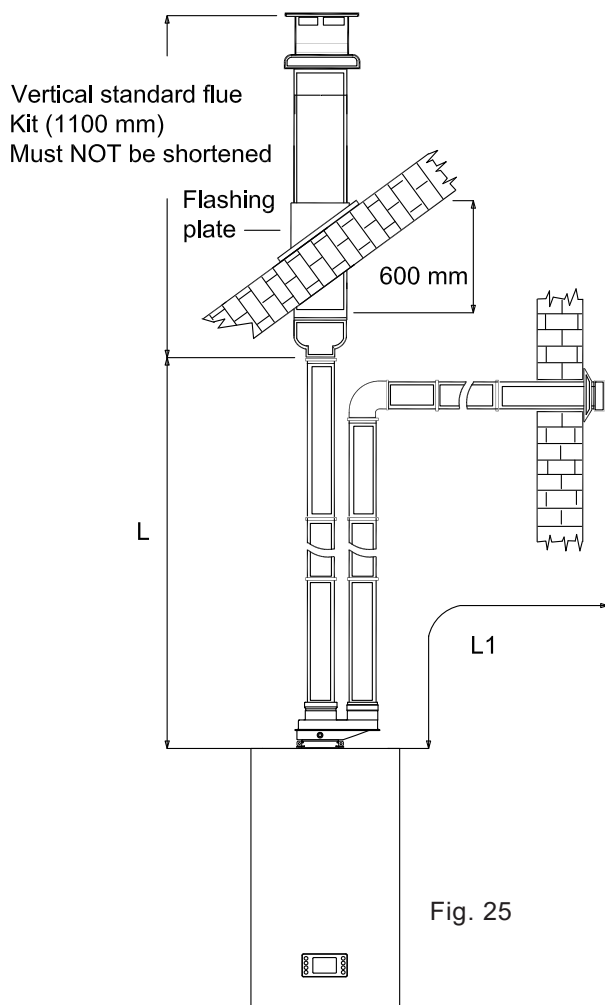

Fig. 25
5.17 Exhaust/suction system with with two separate rated 80 dia. pipes exhaust on flat or sloping roof, suction from vertical wall (fig. 25).